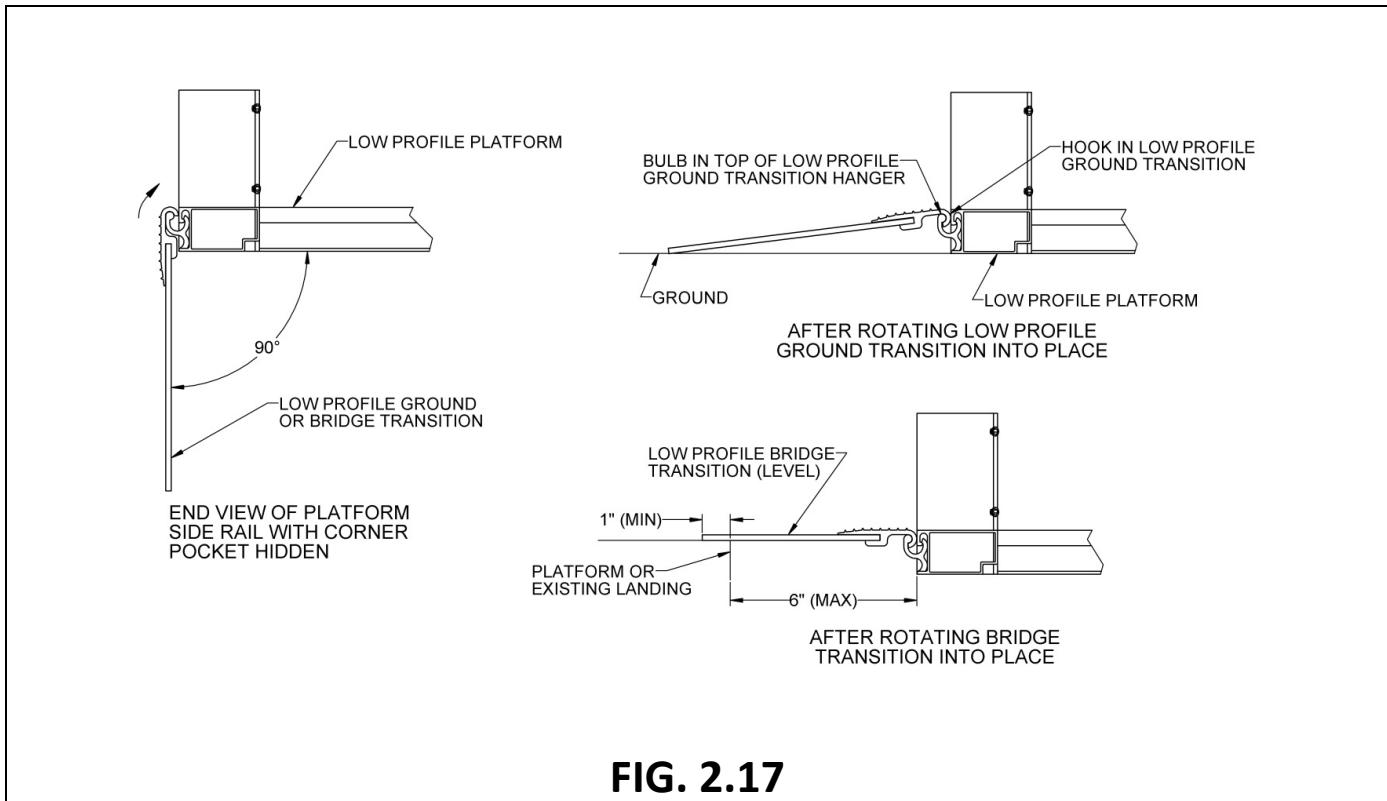

FIG. 2.17
2.6.7.6. Rotate the low profile ground or bridge transition until hook in transition is captured between the bulb in the top of the low profile ground transition hanger and the platform side rail and the ground or bridge transition is parallel with the platform (FIGs. 2.17 and 2.18).